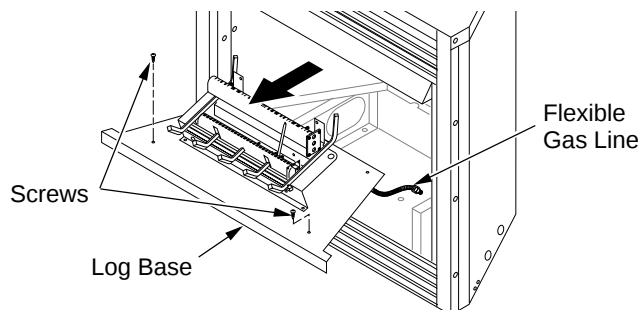

Figure 17 - Removing Log Base from Fireplace
3. Remove screws that attach log base assembly to fireplace. Carefully lift up log base assembly and remove from fireplace, taking care to pull flexible gas line through the access holes (see Figure 17).